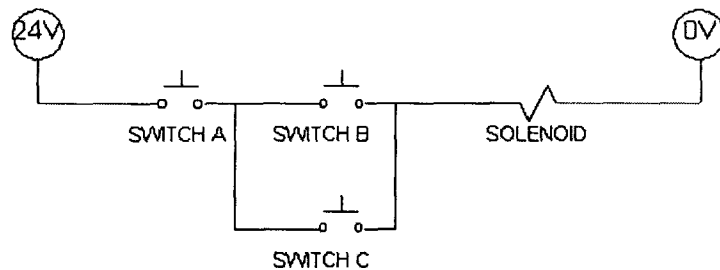

Figure Q4[d]
- [d] Draw a ladder diagram and electrical circuits connecting inputs and output of a programmable logic controller (PLC) to replace the electrical circuit shown in Figure Q4[d].